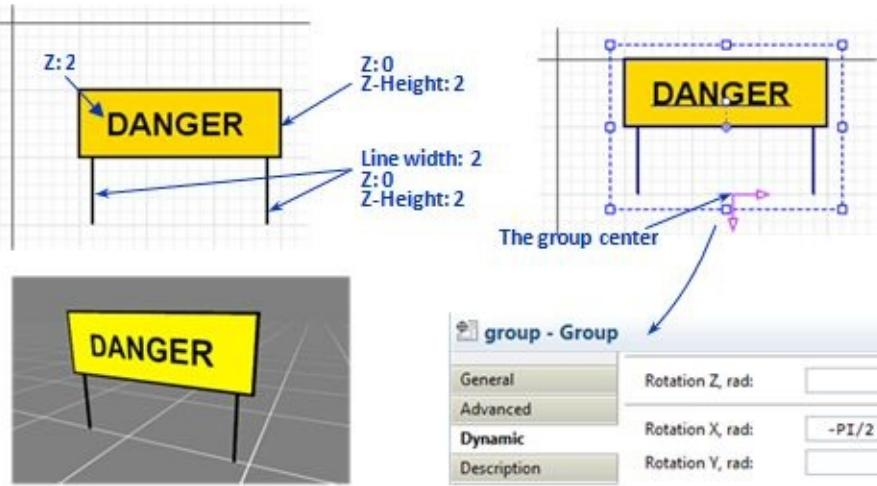

Figure 14.10 A 3D group rotated in the (Y,Z) plane
2. Open the editor of the *Main* object. Draw the crane "XY projection" with three 3D rectangles and two 3D circles, as shown in Figure 14.10.
3. Group all these shapes. Move the group contents, and then the group, so that the group center is at the coordinate origin, as shown in Figure 14.10 on the right.